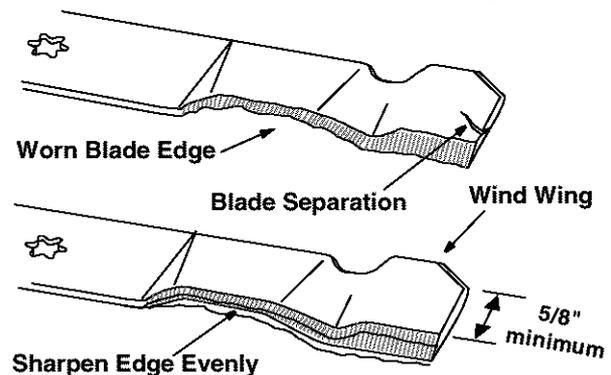

Figure 20
To properly sharpen the cutting blades, remove equal amounts of metal from both ends of the blades along the cutting edges. See Figure 20.
Sharpen the cutting edge straight across, parallel to the trailing edge, at a 25° to 30° angle. See Figure 20.
**IMPORTANT:** If the cutting edge of the blade has already been sharpened to within 5/8" of the wind wing radius, or if any metal separation is present, replace the blades with new ones. See Figure 20.